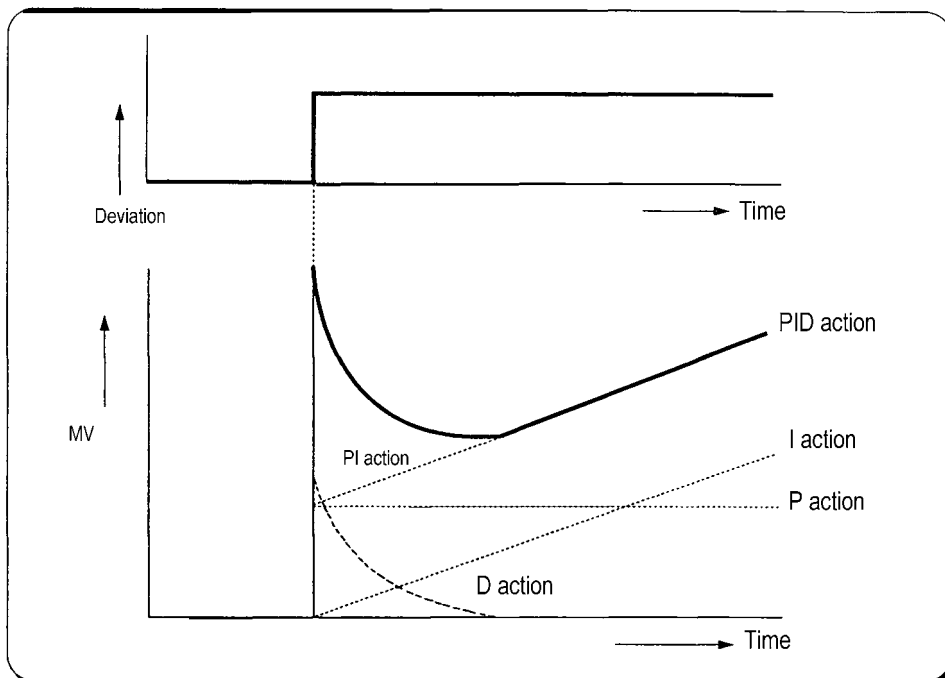

Fig. 7.7 PID action with a constant deviation
① PID action controls the control object with the manipulation quantity produced by (P+I+D) action
② PID action when a given deviation has occurred is shown as the following Fig. 7.7.